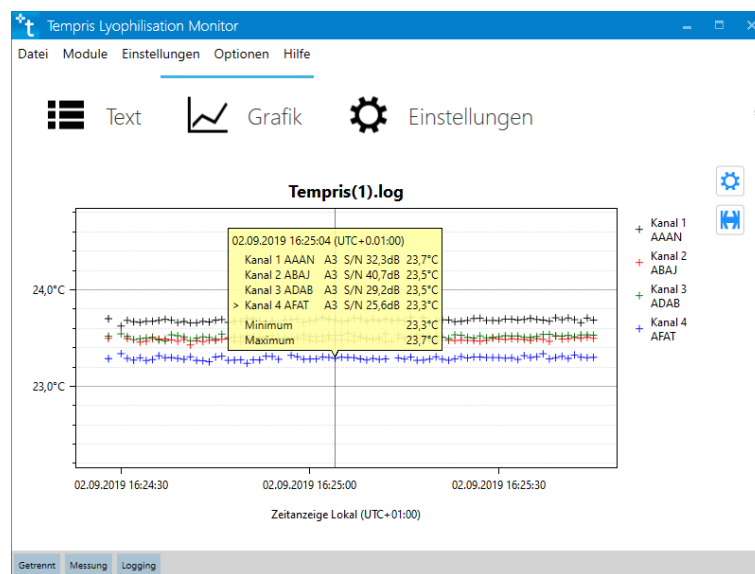

Figure 4-47: Dock-Panel Graphic-Display – Right Mouse Key: Detailed Measuring Point Information
- Left Mouse Key: display of sensor data as text at picked time (Figure 4-47)